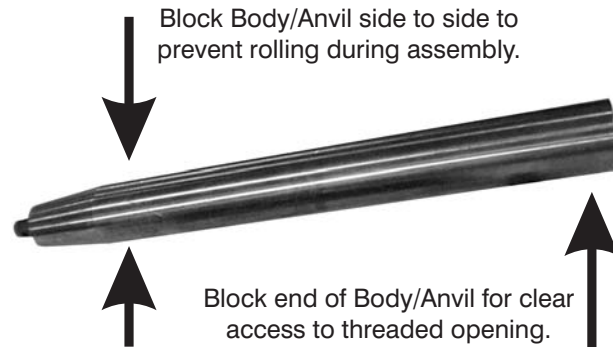
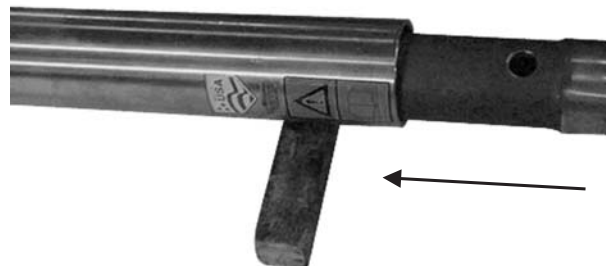

Figure 9-22. Blocking the Body/Anvil
Figure 9-23. Install Striker into Body/Anvil.
1. Place the Body/Anvil (1) on the work surface. Block so the open end is easily accessible and the Body/Anvil will not accidentally roll off the work surface. Refer to Figure 9-22.
2. Coat the Striker (2) with hydraulic fluid before installing it into Body/Anvil (1).
3. Refer to Figure 9-23 and slide the Striker (2) into the Body/Anvil (1). The back end of the Striker should be about 6 in. to 8 in. in (past the threads of the Body/Anvil).